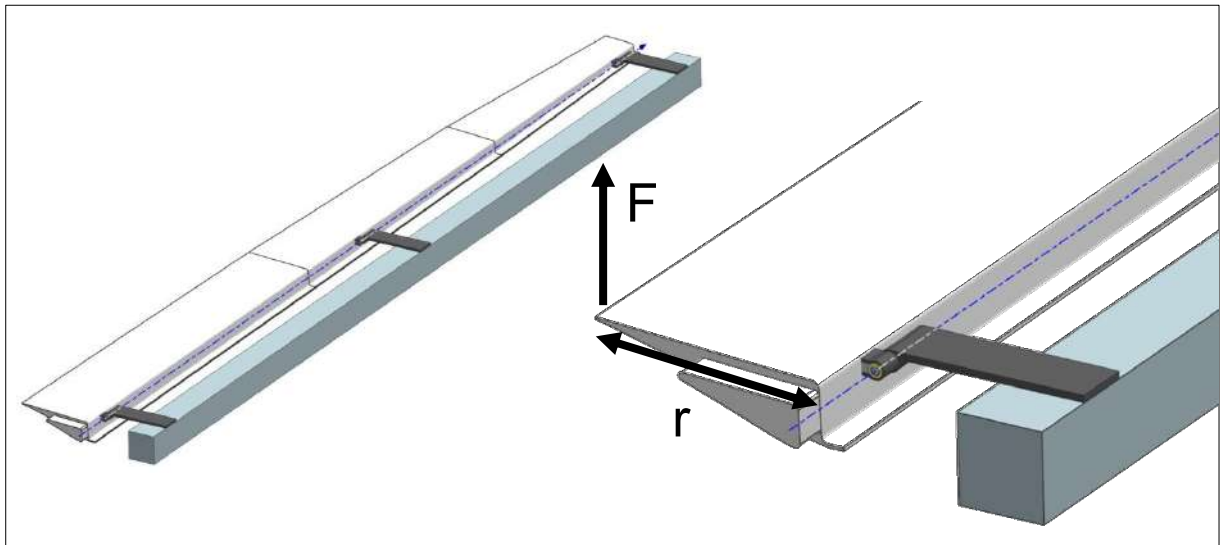

Figure 51-1: Determining control surface moments
3. Support the part on two hinges, as given in Figure 51-1.
4. With the centreline of the part horizontal, measure the mass at the trailing edge, and the moment arm length (r), to the measuring point (Figure 51-1).